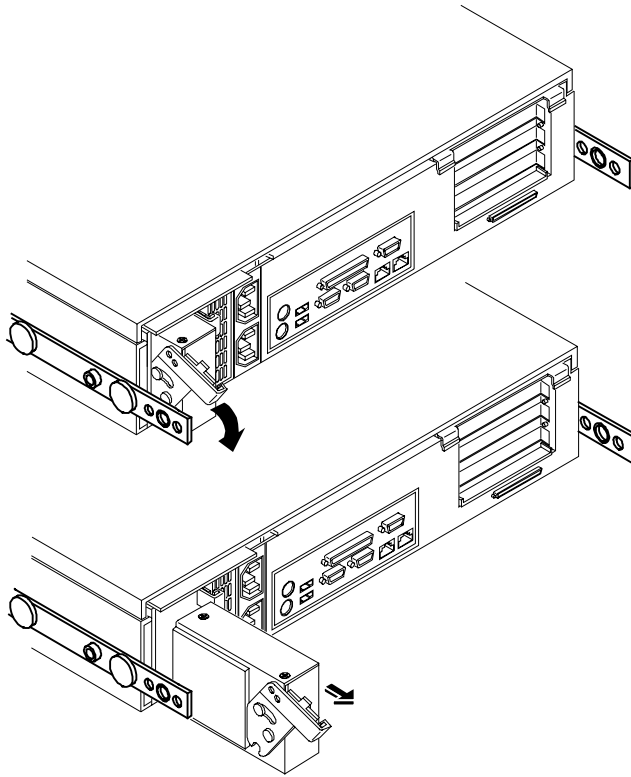

Figure 9-3. Removing the Power Supply Filler Panel
- b. Slide the filler panel out of the power bay. See Figure 9-3.